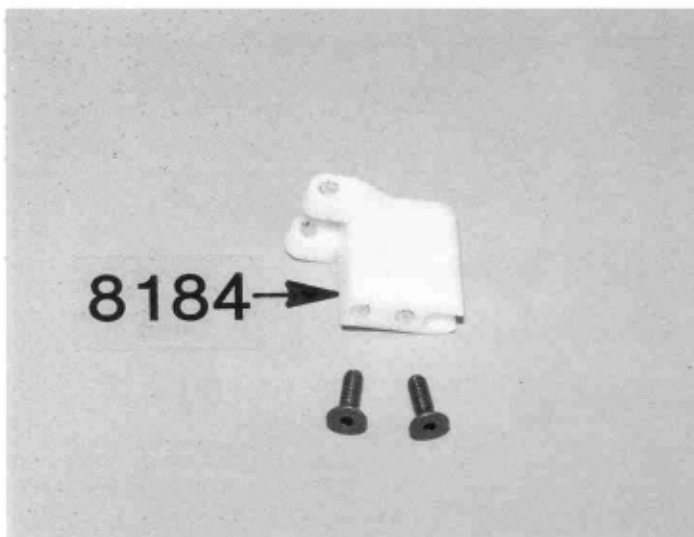

Fig. 22
□ **Figs. 22 & 23**— From Bag #4 remove the #8184 shock/antenna mount and carefully trim off the small round shock bushing and save it for the shock installation (Figs. 64 & 65). Install the #8184 shock/antenna mount with the two allen flat head screws.